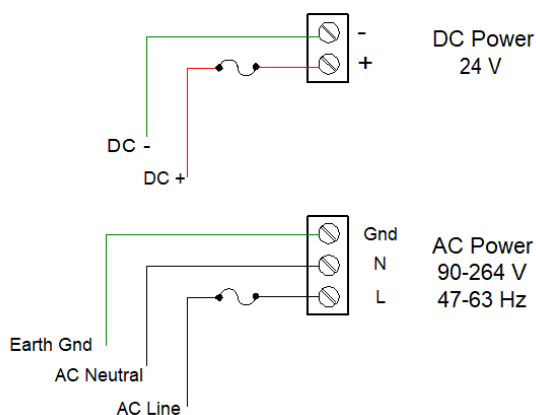

Figure 6. Power Connections
- Use three-terminal power connector as shown in Figure 6.
- Use two-terminal power connector as shown in Figure 6.